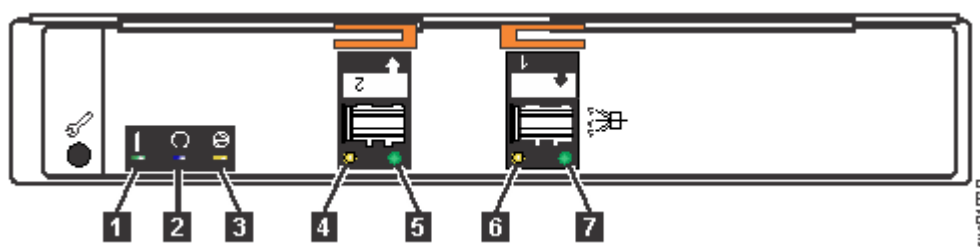

Figure 128. Expansion canister
An expansion canister provides SAS connectivity between the 5U expansion enclosure and control enclosure system. If either of the two expansion canisters has a failure, the other expansion canister assumes the full I/O load. Figure 128 on page 183 shows the features of an expansion enclosure.
3. Release the lower cable management arm to swing it out of the way, as described in Figure 128 on page 183.